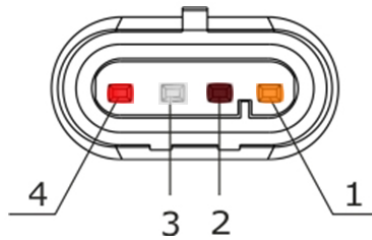

Figure 19 —DUT-E 232 and DUT-E 485 interface cable connector pinout
**DUT-E 232** and **DUT-E 485** electrical connection is made according to pinout of the connector and interface cable wires description. See Figure 19 and Chart 8 for details.